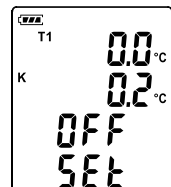

Fig.2
- (1) Plug the thermocouple into the input T1 terminal.
- (2) Turn off the unit.
- (3) Enter offset setting mode by pressing and holding **T1-T2** button and then press **°C °F** power button to turn on the unit. (see Fig.2)
- (4) Place the thermocouple in a known stable temperature environment (such as an ice bath or a dry well calibrator).
- (5) Allow the readings to stabilize.
- (6) Press **+** (**T1-T2**) or **-** (**°C °F**) to adjust value.
- (7) When finish, press **MIN MAX** button to exit **offset setting** mode.